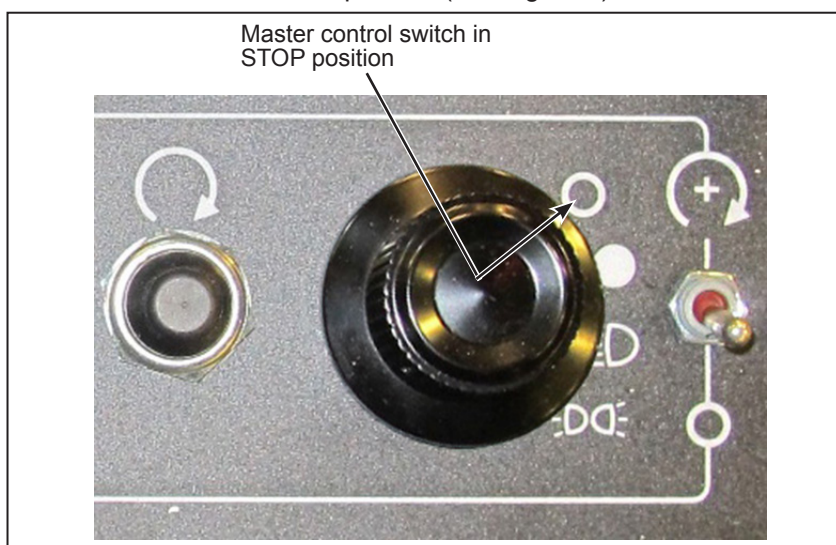

Figure 1 - Typical View of Master Control Switch in STOP Position
- 1.4. Set the Master control switch in the STOP position (see Figure 1).